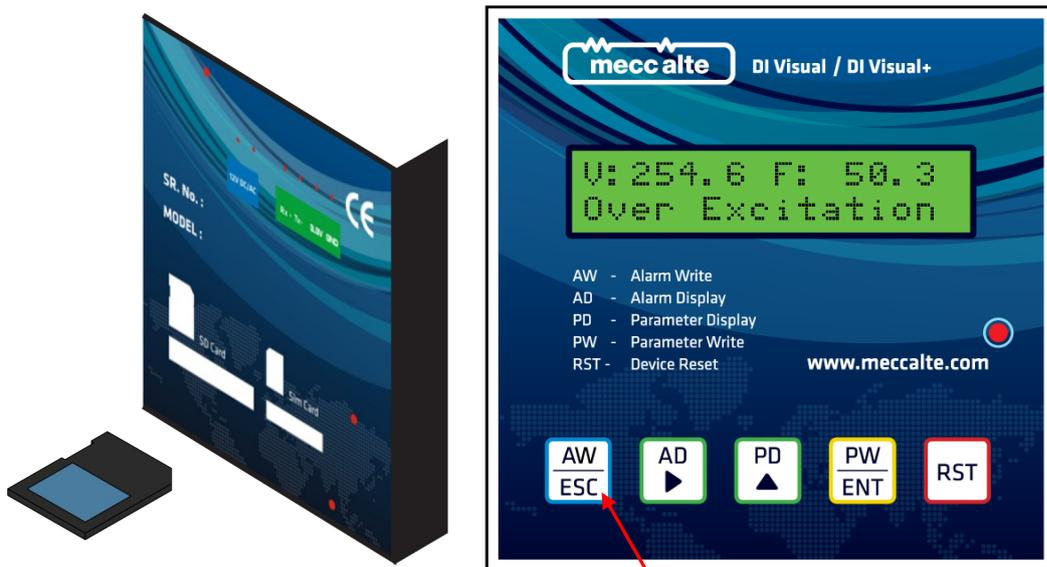
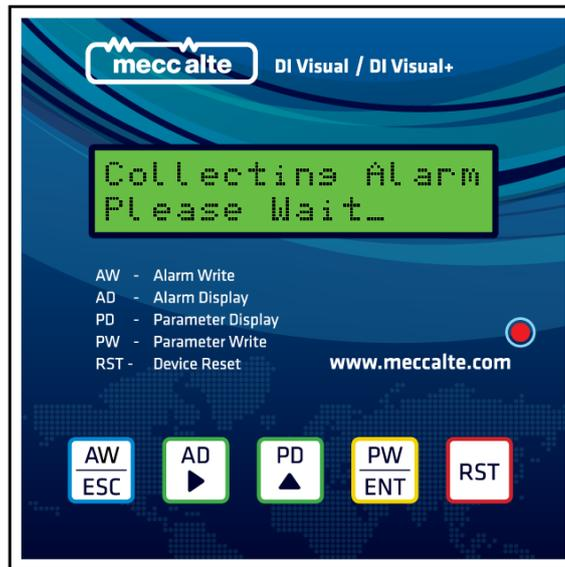

fig. 12
fig. 13
2) Once the SD card is inserted keep the  key pressed as shown in Fig. 12 above until you see "Collecting Alarms" message on the display as shown in Fig. 13 below.